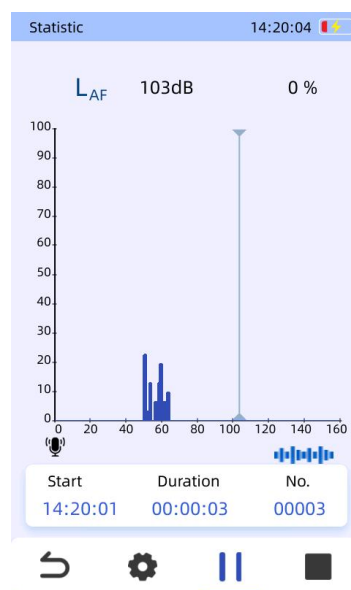

Fig 6.24 SPL
- a. Manual Mode: The user manually starts and stops the measurement from the main interface button area. Figure 6.24 shows that in manual mode, the testing is entirely controlled by user actions, making any time settings in the testing mode configuration ineffective and uneditable.